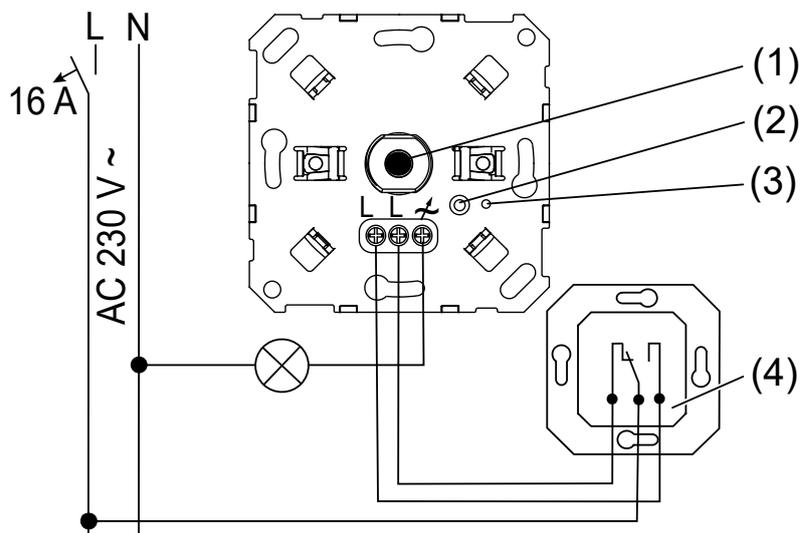

Figure 2: Connection in changeover circuit
- Optional connection with changeover switch (4) (see figure 2)